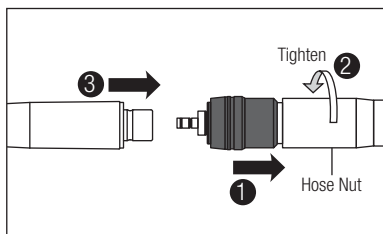

Fig. 4
- 1) Insert the coupling into the hose connector and tighten the hose nut (Fig. 4).